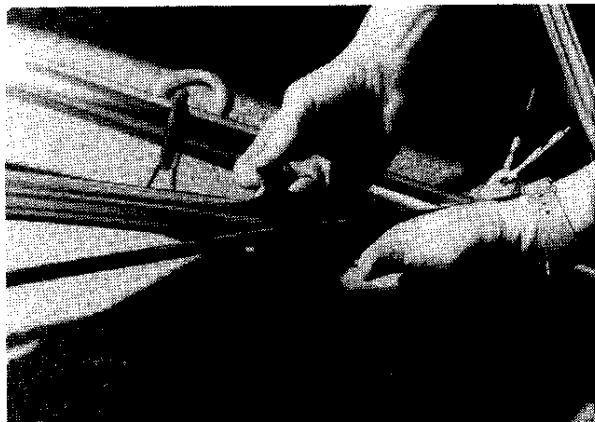

Figure 2.45
51. Secure teleflex cable to axle strut and lower tail wire using Velcro tabs. **Figure 2.45**